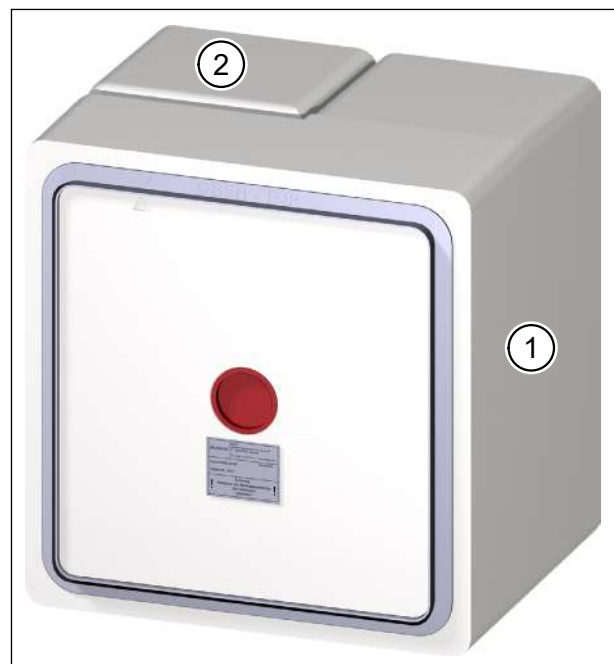

Fig. 1: Installation kit M-WRG-M/MB with optional filler piece M-WRG-M/Fü
This manual describes how to flush-mount the M-WRG-M/MB installation kit (item 1 in Fig. 1) in solid walls. In new builds, if a complete wall aperture is planned for the installation kit or if a complete wall breakthrough is planned for a retrofit, the optional filler piece M-WRG-M/Fü (item 2 in Fig. 1) can be used to pack out the wall.